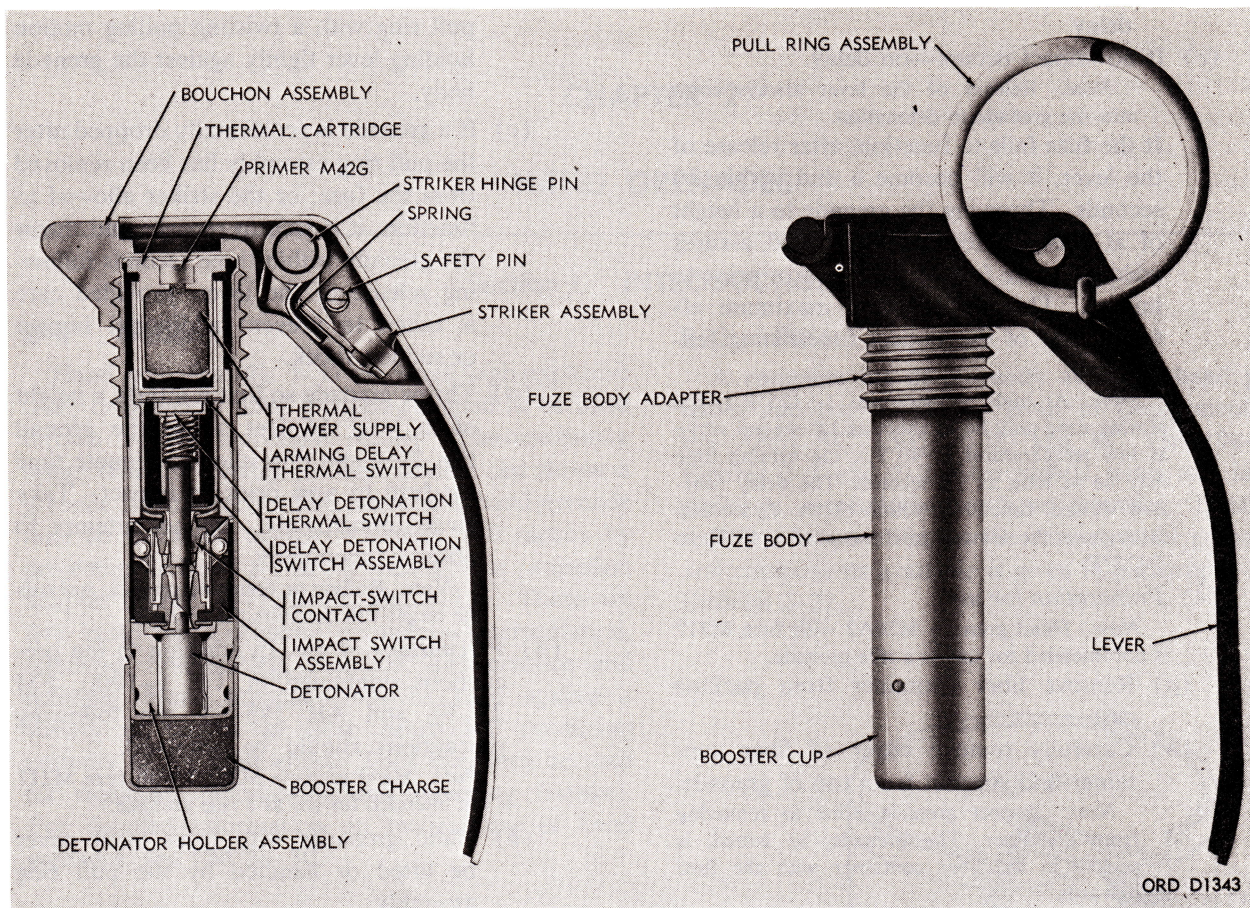

Figure 2-7. Fuze, hand grenade: M217—cross section and external view.
- (b) *Fuze, M217.* Fuze M217 (fig. 2-7) is equipped with a safety pin and pull ring. The split end of the safety (cutter) pin is spread to prevent accidental removal and arming during shipping and handling. The pull ring is provided to facilitate removal of the safety pin for arming.